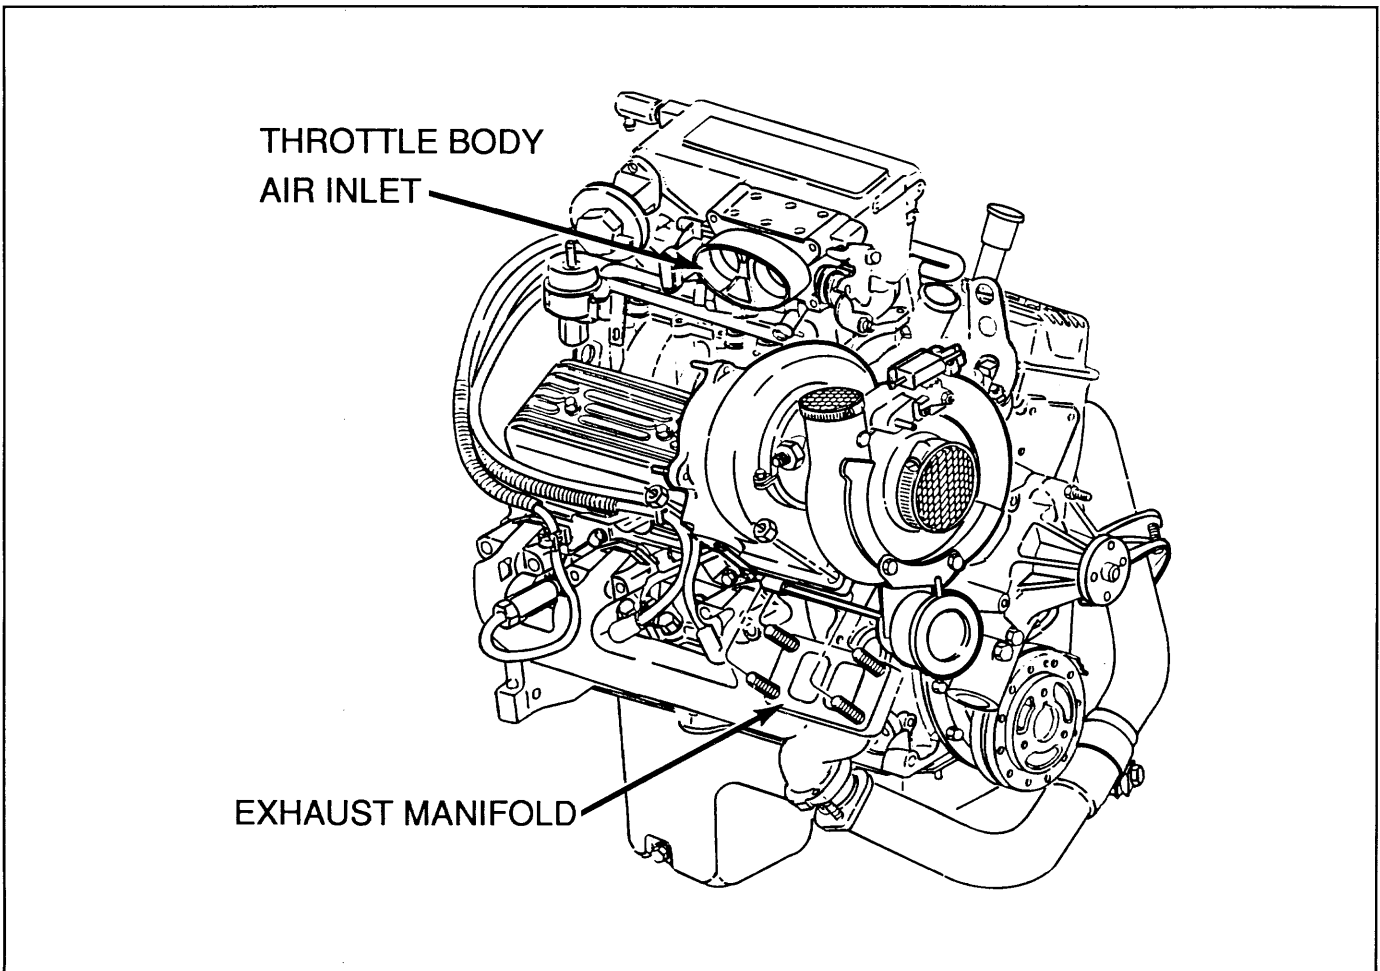

Figure 2. Turbocharger Installation — 4.3L PFI Engine
5. Inspect the exhaust manifold for cracks. See that the turbocharger is tightly connected to the manifold (Figure 2).